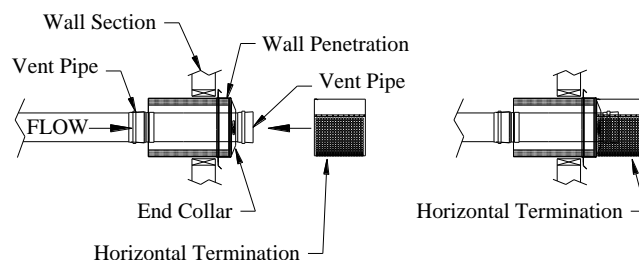

Fig 14. (Wall Penetration & Horizontal Termination)
4. Termination may be easily removed for inspection of the venting system (See Fig 14).